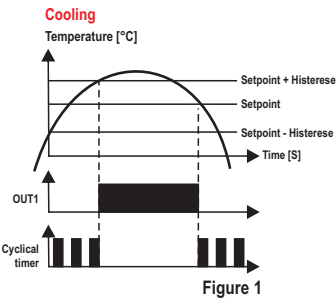

Figure 1
- **Timer triggered by SP1 (F22=1):** the timer is triggered whenever the temperature reaches the value configured for SP1. The timer switches off when the temperature reaches SP1 + F06 (if **stage 1** is configured as refrigeration) or SP1 - F06 (if **stage 1** is configured as heating), as shown in Figure 1.
- **Stage 1 linked to the cyclical timer (timer switches on upon power up) (F22=2):** in this configuration, the timer cycles according to the times configured in F20 ( $[CON]$ ) and F21 ( $[OFF]$ ). The **Stage 1** starts to cycle when the temperature reaches SP1 + F06 (if **stage 1** is configured as refrigeration) or SP1 - F06 (if **stage 1** is configured as heating), as shown in Figure 1.